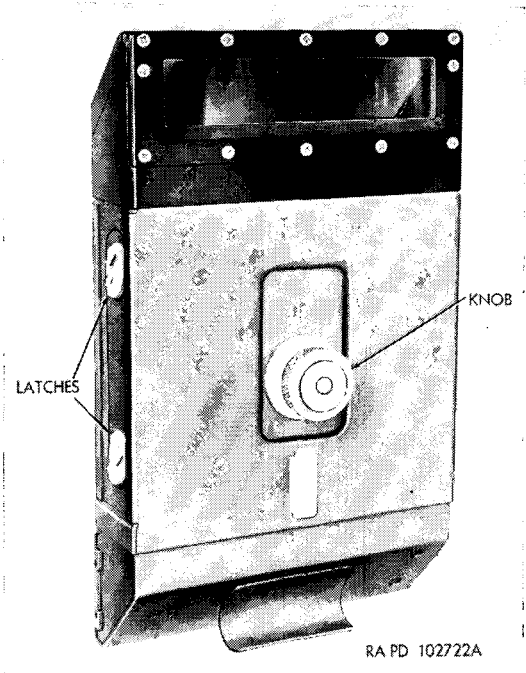
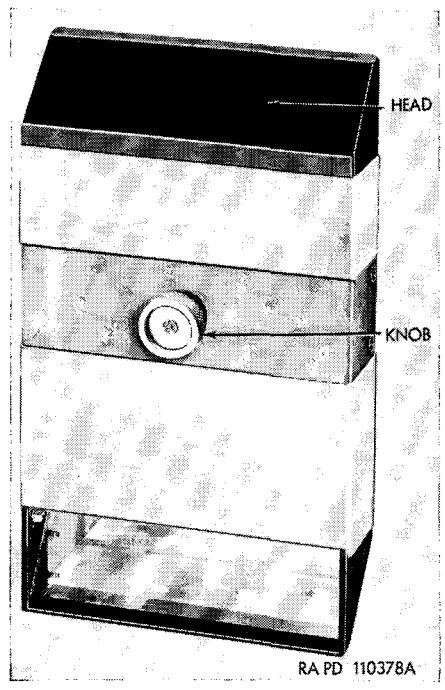

Figure 14. Periscope M6.
Figure 15. Periscope M13.
a. The periscope M6 (fig. 14) or M13 (fig. 15) is used by the driver and assistant driver for observation from the interior of the tank. One periscope is secured in a holder in the driver's door and another in assistant driver's door by a latch mechanism and a knob. It may